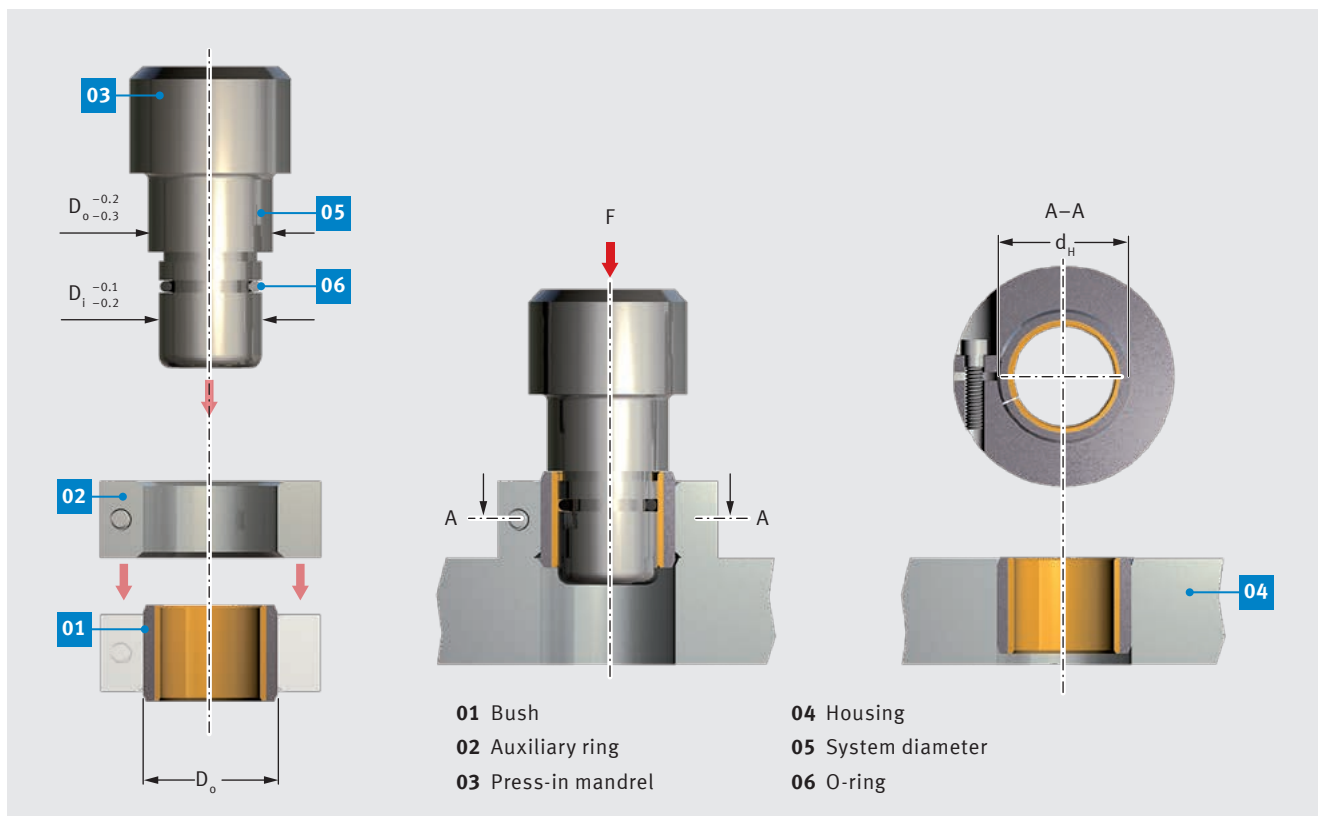

Fig. 54: Press-fitting bushes, $D_o \geq 55$ mm, with auxiliary ring
- Press-fitting with mandrel and auxiliary ring, as per Fig. 54.